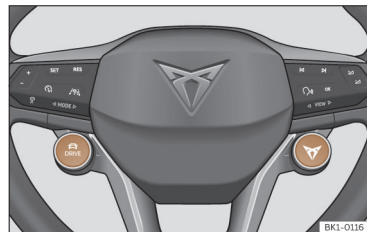

Fig. 101 Multifunction steering wheel: DRIVE and CUPRA buttons for selecting and changing the driving profile.
- **OR:** Press the  button on the multifunction steering wheel >>> **Fig. 101** to activate the Cupra driving profile.
- **OR:** Repeatedly press the  button on the multifunction steering wheel >>> **Fig. 101** to switch between driving profiles.